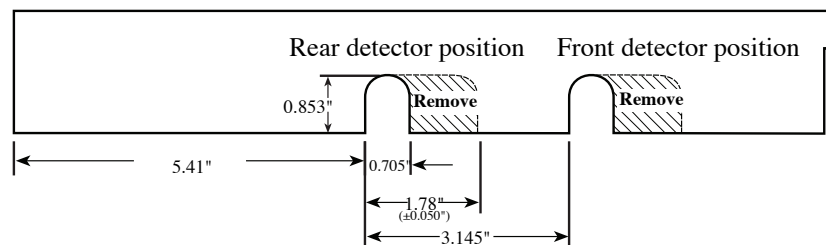

Figure 4.2. Preparing the top right GC cover
- Cut a hole in the top-right GC cover (Figure 4.2).